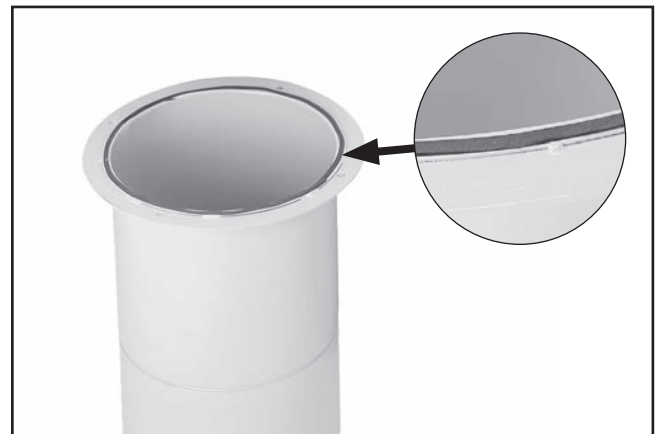

Figure 16. Foam tape attached to the intake cylinder.
- Apply 3 x 6mm foam tape on intake cylinder, as shown in **Figure 16**.